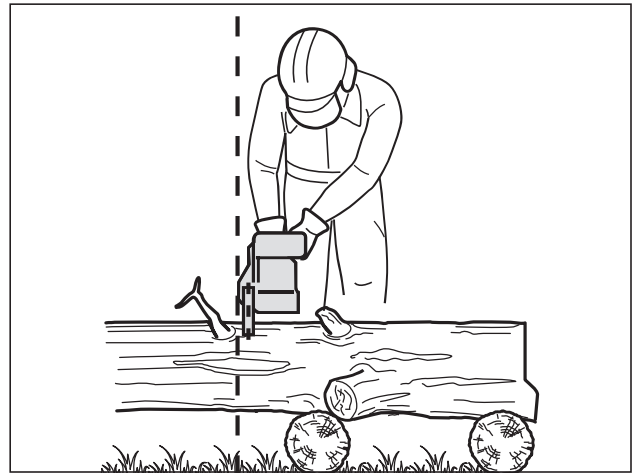

Fig. 18
3. Only use the product with a secure stance. Hold the product at the right-hand side of your body(Fig.18).